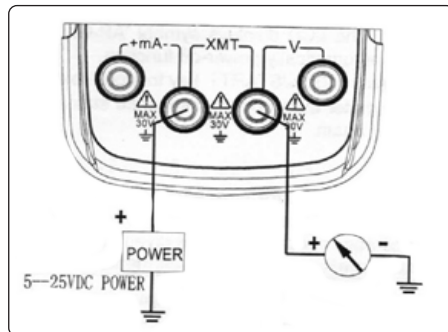

Figure 5-3
1. Insert the testing probe into the XMT jack of the meter's output terminal (OUTPUT), and connect the other end with input terminal of the Users' meter, see Figure 5-3: